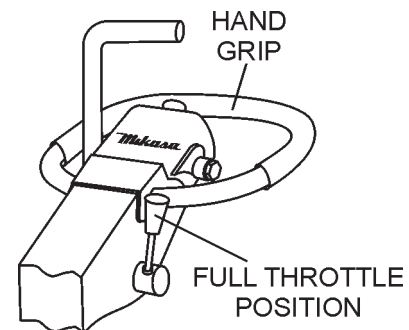

**Figure 19. Starter Grip**
- Grasp the starter grip (Figure 19) and slowly pull it out. The resistance becomes the hardest at a certain position, corresponding to the compression point. Pull the starter grip briskly and smoothly for starting.